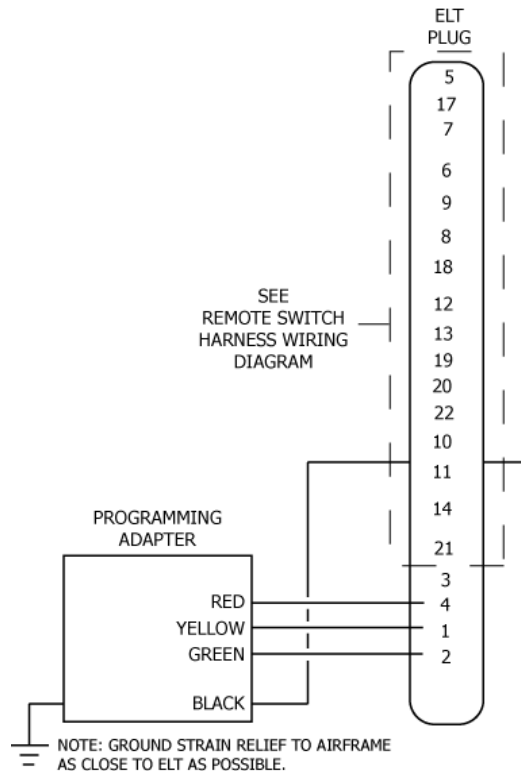

Figure 31 Programming Adapter Interface Wiring Diagram
- 4) Terminate the contact sockets of the six PA wires in the remote switch harness ELT plug using insertion tool MS27495A22MS, or equivalent. See Figure 31.